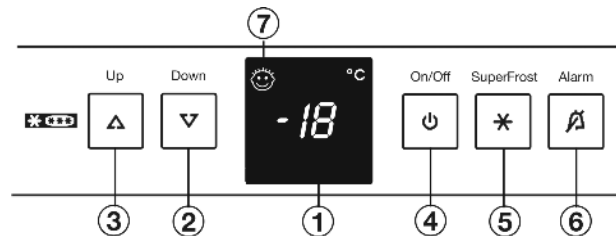

Fig. 2
- ▶ Press On/Off button *Fig. 2 (4)*.
- ▶ To activate the setting mode: press the SuperFrost button *Fig. 2 (5)* for about 5 s.
- ▶ Using the Up setting button *Fig. 2 (3)* or Down setting button, *Fig. 2 (2)*, select  $\text{h}$ .
- ▶ To confirm: briefly press the SuperFrost button *Fig. 2 (5)*.
- ▶ To make the display brighter: press Up button *Fig. 2 (3)*.
- ▶ To make the display darker: press Down button *Fig. 2 (2)*.
- ▶ To confirm: press SuperFrost button *Fig. 2 (5)*.
- ▶ To deactivate the set-up mode: press On/Off button *Fig. 2 (4)*.